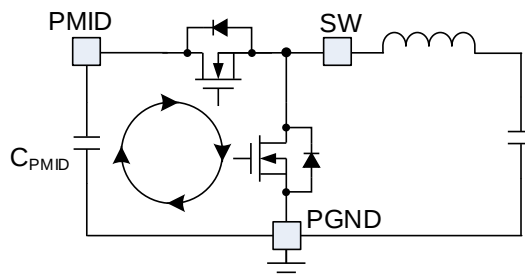

Figure 7: High-Frequency Current Path
PCB layout is critical to meet specified noise, efficiency and stability requirements. For the best results, refer to Figure 7 and follow the guidelines below:
3. Minimize the high-frequency current path loop between the PMID capacitor and the buck converter power MOSFETs (PMID pin to capacitor, PGND to capacitor) (see Figure 7).